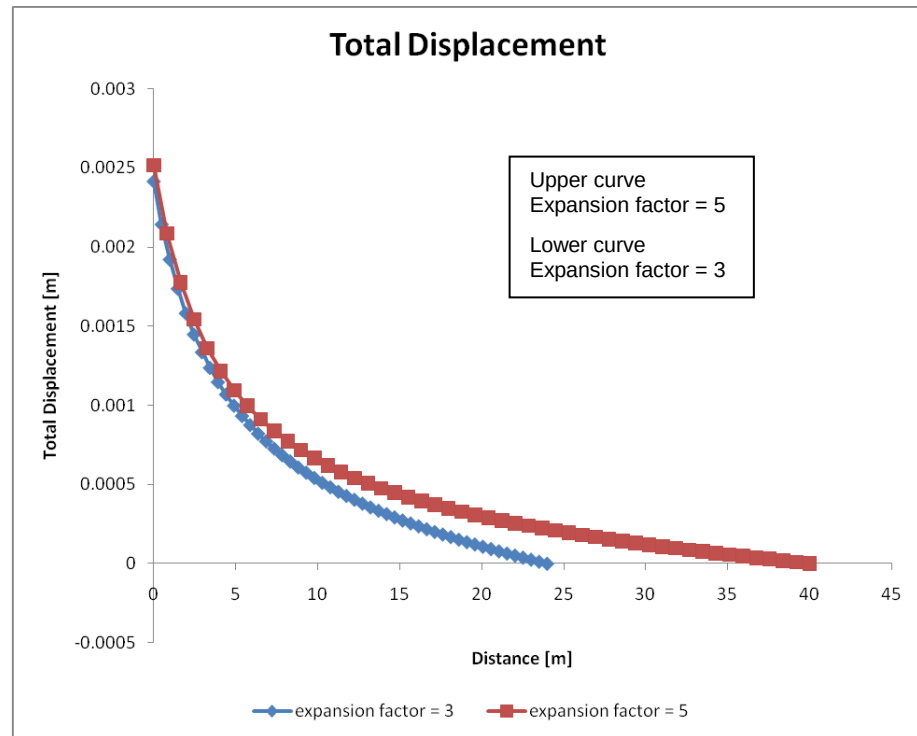

Figure 6-11: Moving the fixed external boundary farther from the excavation results in increased displacements.
4. In Excel plot the query data to obtain Figure 6-11.
The displacements near the excavation are comparable, but diverge towards the external boundary. For example, at about 18 meters from the excavation, the displacement for the Expansion Factor = 5 curve is about double the Expansion Factor = 3 curve (see Figure 6-11).